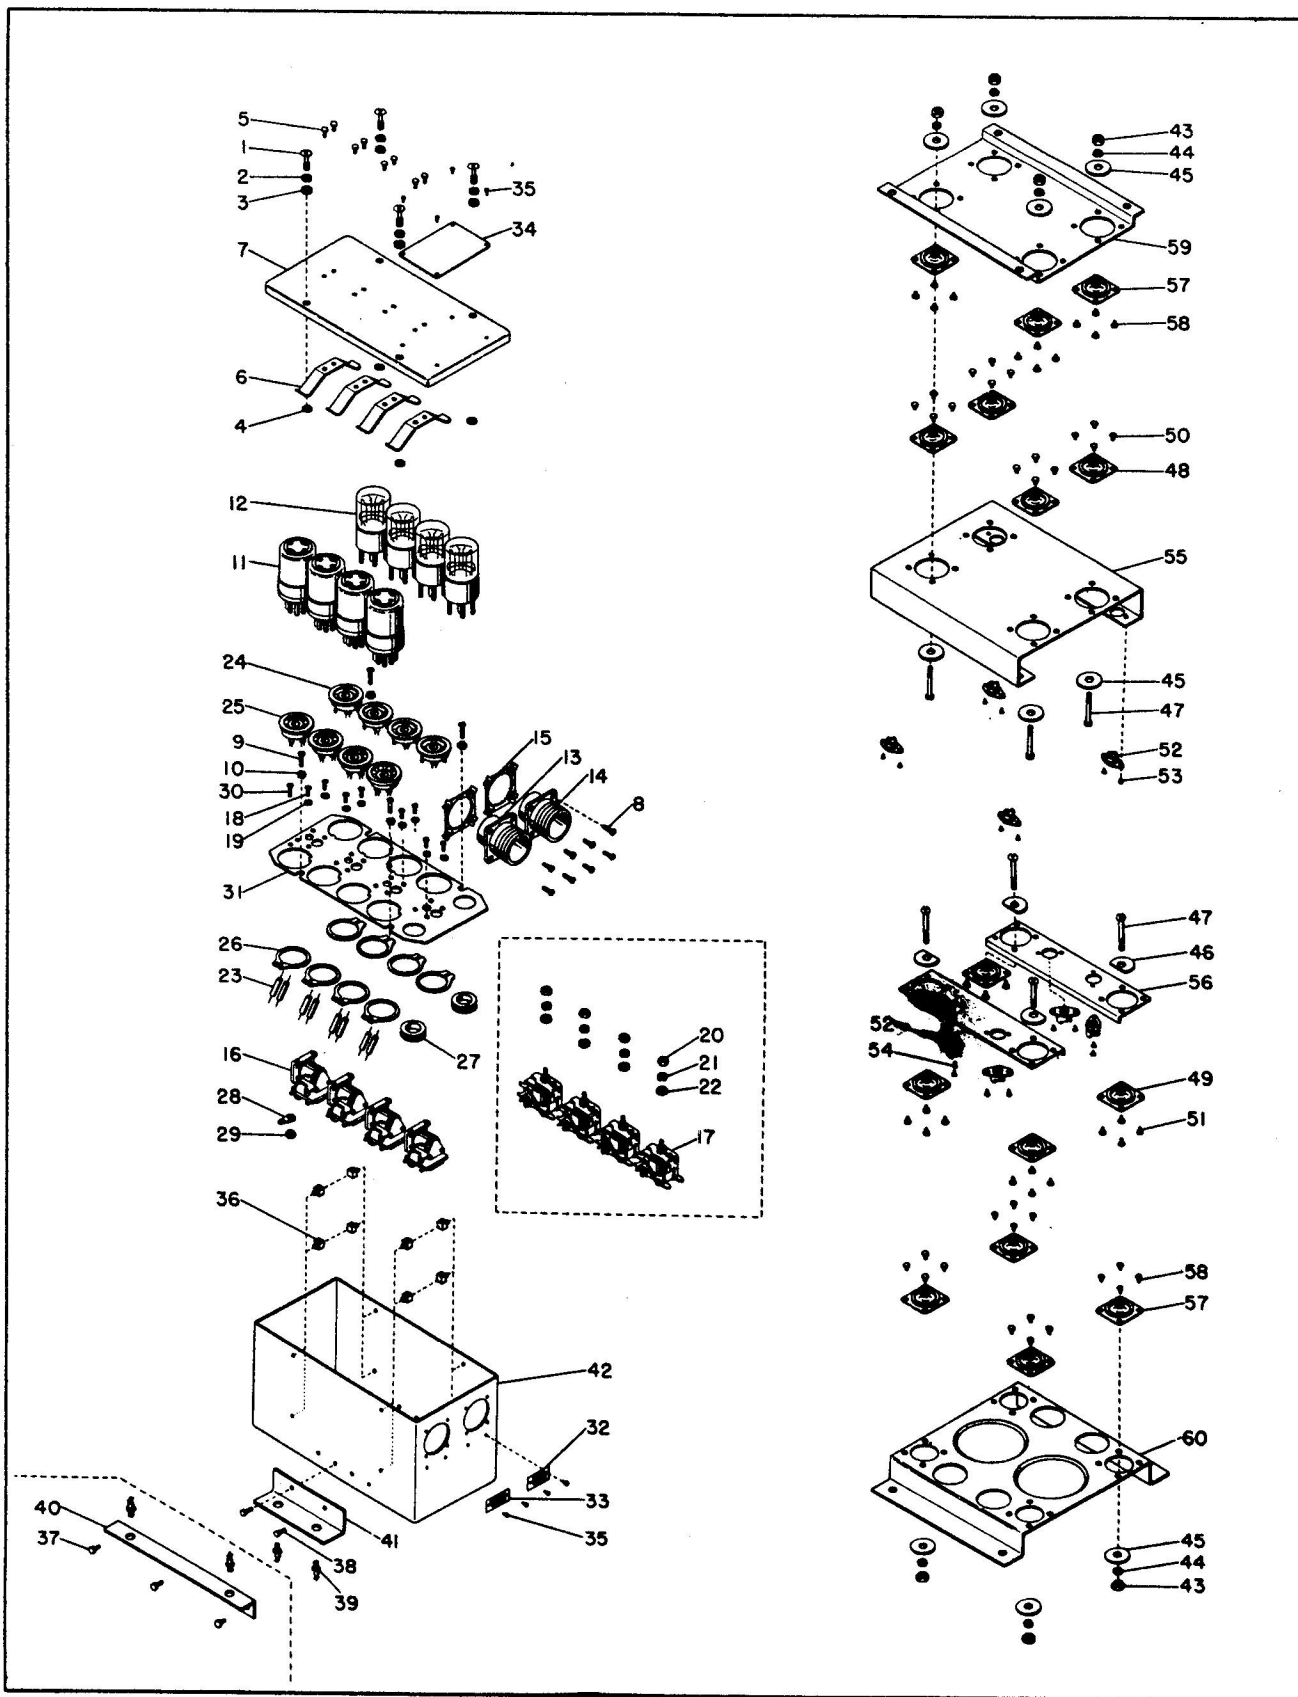

Figure 4-1 Exploded View of Typical Control Assembly
- a. Loosen fasteners (39) and separate panel assembly from shock mount assembly.
- b. Loosen cover screws (1, figure 4-1) and remove the cover assembly.
- c. Remove the plug-in sensitive relays (11) and thermal test units (12).
- d. Remove the receptacle mounting screws (8) and push the receptacles (13 and 14) into the box (42).
- e. Remove screws (9) and lock washers (10), then tip the chassis assembly and remove it from the box.
- g. Unsolder connecting wiring from relays (16 or 17), then remove screws (18) and lock washers (19), or nuts (20), lock washers (21), and spacing washers (22) thus freeing relay.
- h. Unsolder resistor leads from socket terminals then remove resistors (23)
- i. Mark on the under side of chassis (31) opposite the position indicator dot on the under side of each socket (24 and 25)
- j. Unsolder connecting wiring from sockets then remove retaining rings (26) and sockets.
- k. Drill out rivets (37 or 38) and remove fasteners (39)
- l. Remove nuts (43), lock washers (44), and crash washers (45 and/or 46) and screws (47).
- a. Attach fasteners (39, figure 4-1) by means of rivets (37 or 38).
- b. Attach vibration isolators (48) or notched shock mounts (49), and vibration isolators (57) by means of rivets (50 or 51 and 58), position of isolator or shock mount to be with the word "LORD" in the load bearing direction.
- c. Secure strap assembly to base assembly by means of screws (47), crash washers (45 and/or 46), lock washers (44), and nuts (43).
- d. Install sockets (24 and 25) in chassis (31), observing position of indicator dot with reference to mark placed on chassis (31) in disassembly step, paragraph 4-9 i.
- e. Secure sockets with retaining rings (26).
- f. Secure relays (16 or 17) to chassis by means of screws (18) and lock washers (19), or nuts (20), lock washers (21), and spacing washers (22).
Index Number Key for Figure 4-1.